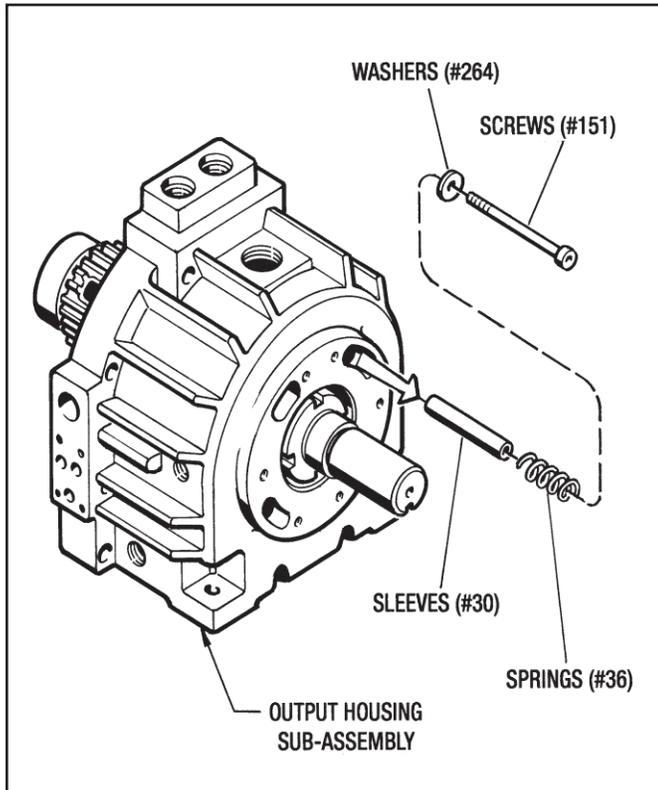

Figure 7.2 - Removing Brake Springs
5. Insert a 5/16" allen wrench into the (4) cavities and back-out the Screws (#151). Pull out the Screws (#151), Washers (#264), Springs (#31) and Sleeves (#30). (See Figure 7.2).
1. Remove the (4) Screws (#62) and (4) Lockwashers (#128) from the Piston Retainer (#11). Using the (2) jackscrew holes, separate the Piston Retainer (#11) from the Output Housing (#9). **Be careful not to damage the Teflon Liner (#42) in the Piston Retainer.**
4. Set the Output Housing upright and remove the (6) Screws (#63) from the Bearing Retainer (#329) located on the output end. Pull the Bearing Retainer (#329) off the Output Shaft. **Be careful not to damage the lip of the Oil Seal (#31).**
5. Insert a 5/16" allen wrench into the (4) cavities and back-out the Screws (#76). Pull out the Screws (#76), Washers (#264), Springs (#31) and Sleeves (#30). (See Figure 7.2).